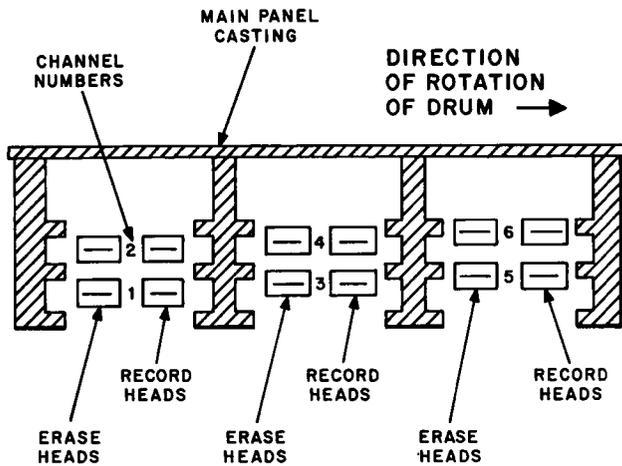

Fig. 7—Arrangement of Erase and Record Heads—Top View
(1) Record a 1000-Hz tone on channel 3 (Fig. 7) by connecting a 3P7A cord between the -10 dBm jack and TST IN 2 jack (corresponding to channel 3). Operate the REC POT (or RCD) key and hold operated for two full revolutions of the drum; release the key.
(2) Connect a 23A TMS to a TST OUT 2 jack (corresponding to channel 3) using a  $\phi$ 2W42A $\phi$  cord. Observe the level of the reproduced tone indicated on the TMS meter.
(3) Insert one plug of a 3P7A cord into the TST IN 0 jack (corresponding to channel 1) and ground its sleeve. (In systems where a CHAN SEL switch is provided, place the switch in position 0 and operate the RCD key.) This will energize the erase head of channel 1 and should be maintained for a full drum revolution. Remove the cord sleeve ground (or restore the RCD key) and check that the TMS meter indication for channel 3 has not been reduced more than 1 dB.
- (1) Following the procedure given in Section 231-024-501, record a 1000-Hz tone on channel 3 (Fig. 7).
- (2) To measure the output of channel 3, insert one plug of 3P12H cord into the TMS jack and the other plug into a 23A TMS.
- (3) Note the range of needle fluctuations of the meter on the TMS which is connected to channel 3. Hold operated the record-reproduce